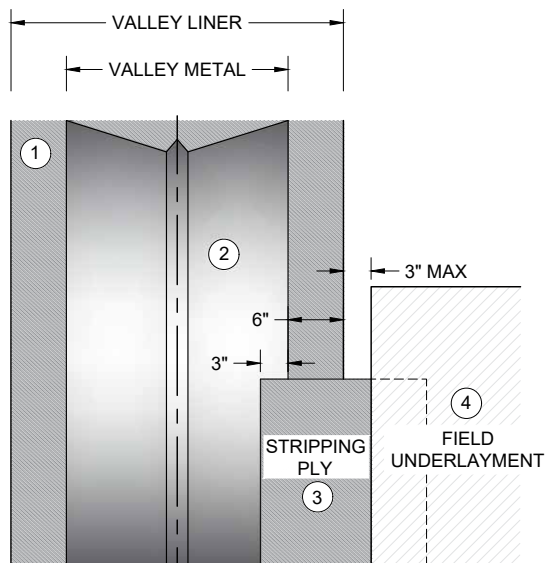

Figure 12 - Construction of Open Metal Valley Option 2
4. Apply field underlayment and position 3" max (76 mm) from the edge of the valley liner. (See Figure 12)